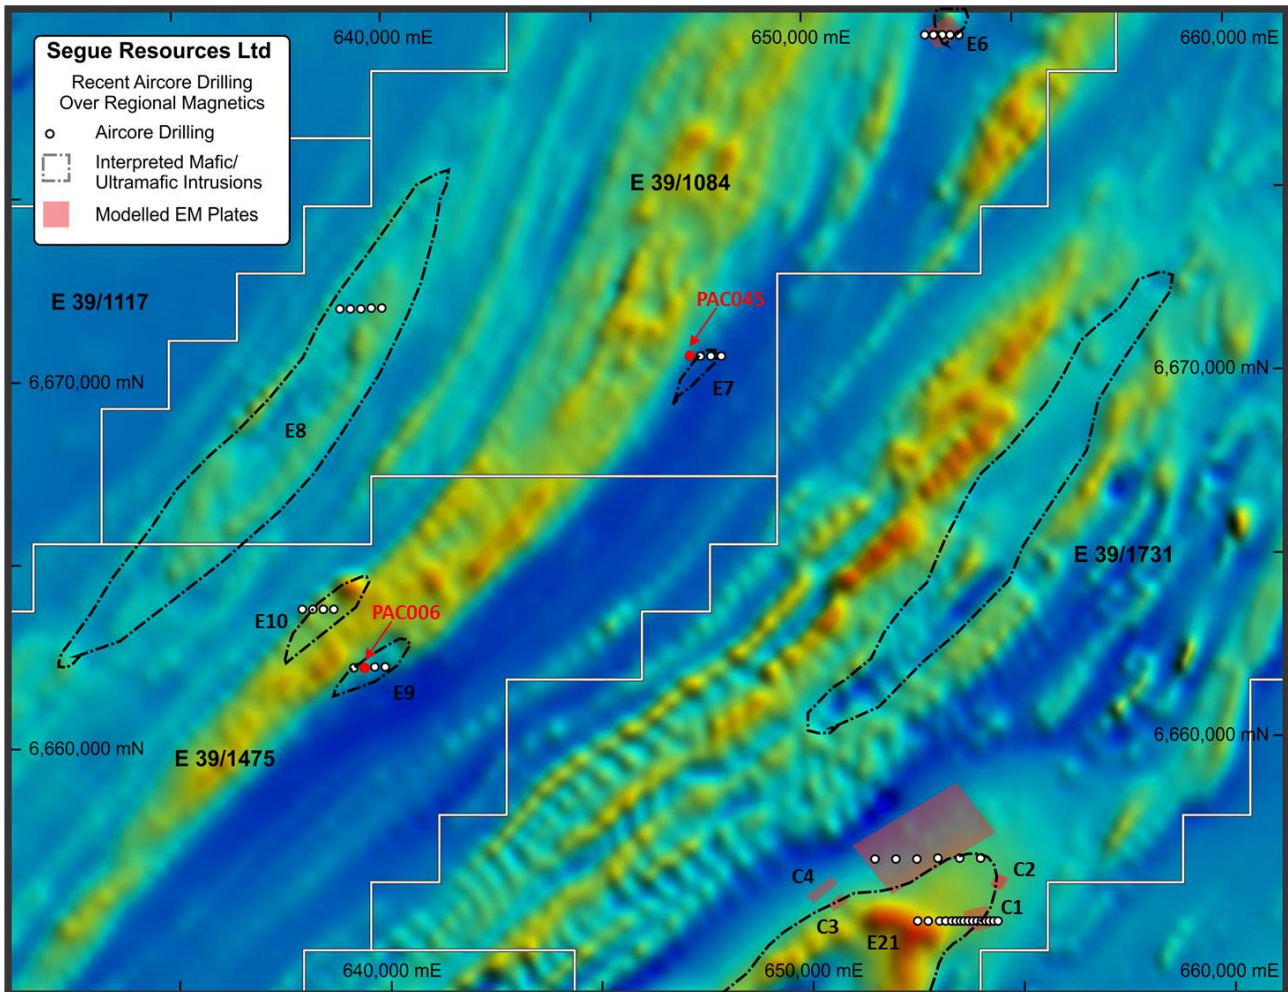

Figure 4 – Location of aircore drill collars over regional magnetics
A 48 hole (2,162 metre) aircore drilling program has been completed over seven (7) targets at the Plumridge Nickel Project (**Figure 4**). The objective of the drilling was to collect geological and lithochemical data to provide an initial test of the target zones that had been identified in airborne magnetic and MLEM data. Over 700 samples have been sent to ALS Minerals in Perth for multi-element geochemical assaying. The assay results are expected to be received within 10 days. Full details of the aircore drilling programme are in Appendix A.